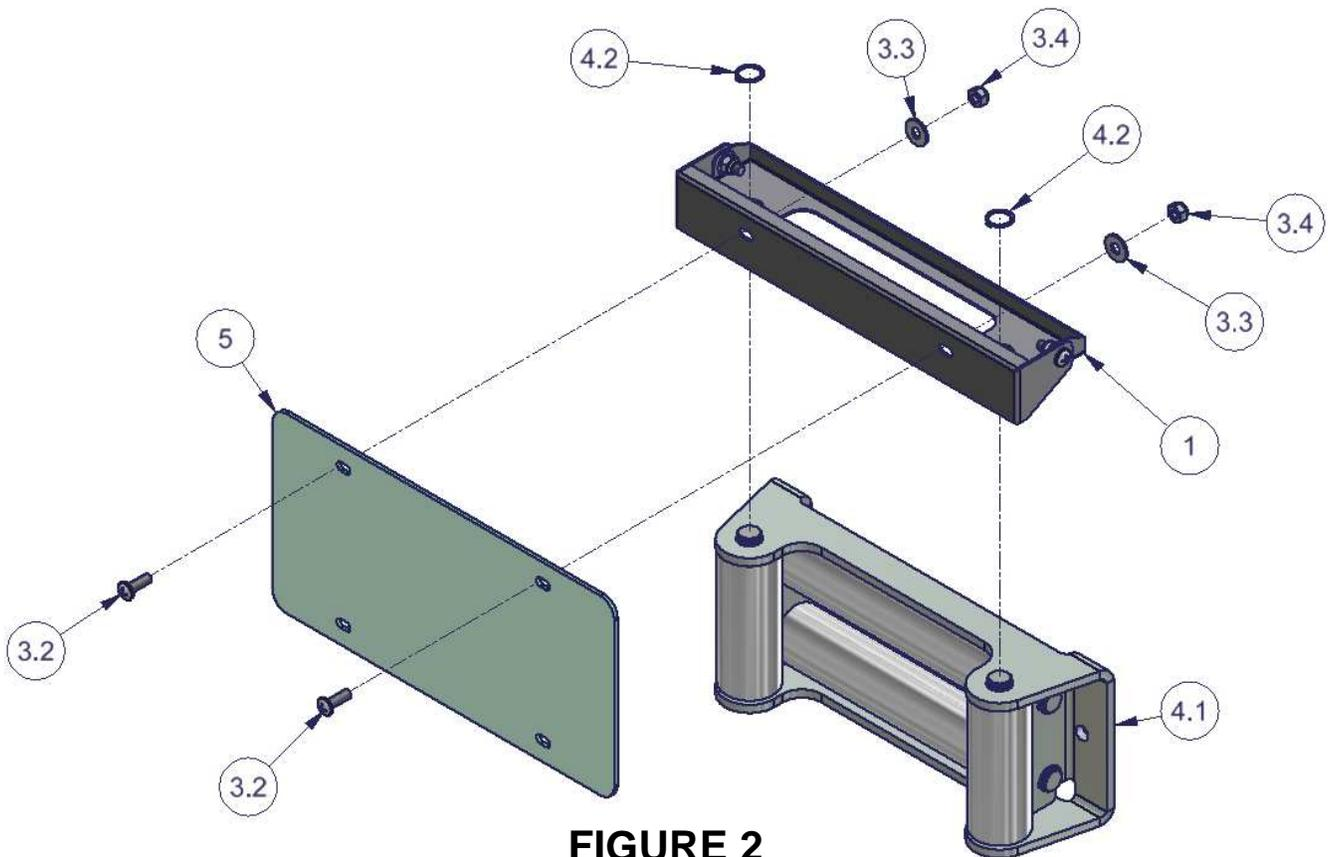

FIGURE 2
3. Using appropriate snap ring pliers, remove the (2) #4.2 external snap rings at the top of your roller fairlead (not included). Install the #1 Flip-Up License Plate Holder onto the roller fairlead vertical pins as illustrated. Re-Install the (2) #4.2 snap rings. (Figure 2)
4. Install your license plate onto the #1 Flip-Up License Plate Holder and fasten with the supplied #3.2 screws, #3.3 washers, and #3.4 nuts. (Figure 2)